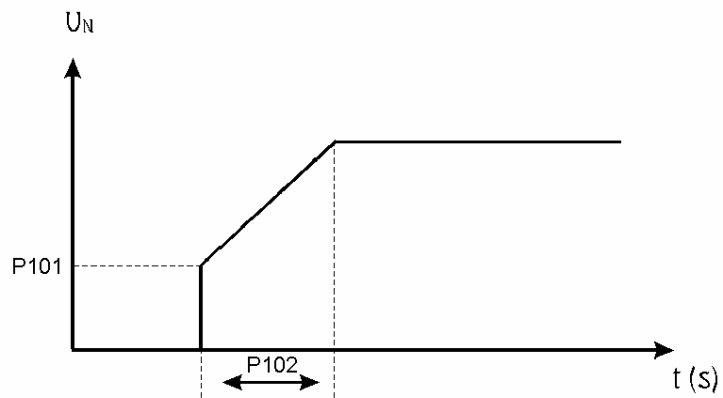

Fig. 8.1 - Acceleration Ramp
- ⌋ It sets the start voltage (%Un) that will be applied to the motor according to Figure 8.1.
- ⌋ It defines the ramp time of the voltage increment, as shown in Fig. 8.1.